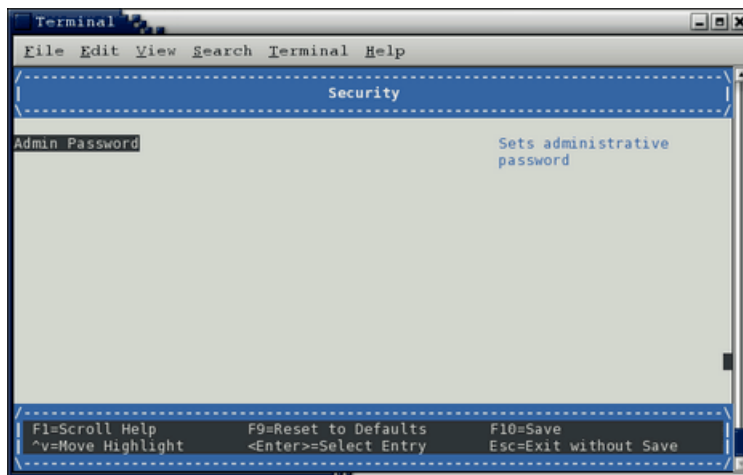

Figure 3-27 Security Screen Admin Password Option
- From the **Security** screen, select the **Admin Password** option, as shown in Figure 3-27 on page 67.